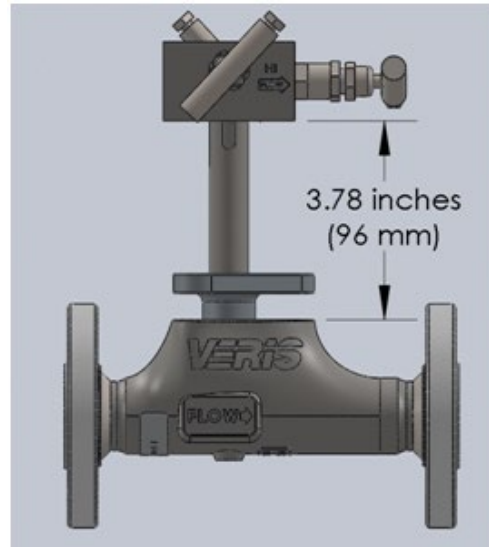

Figure 5. Correct Sensor Position
- To verify that the sensor is properly aligned and seated, measure the distance shown (See Figure 5) which is approximately 3.78 inches (96mm) when the sensor is properly seated.